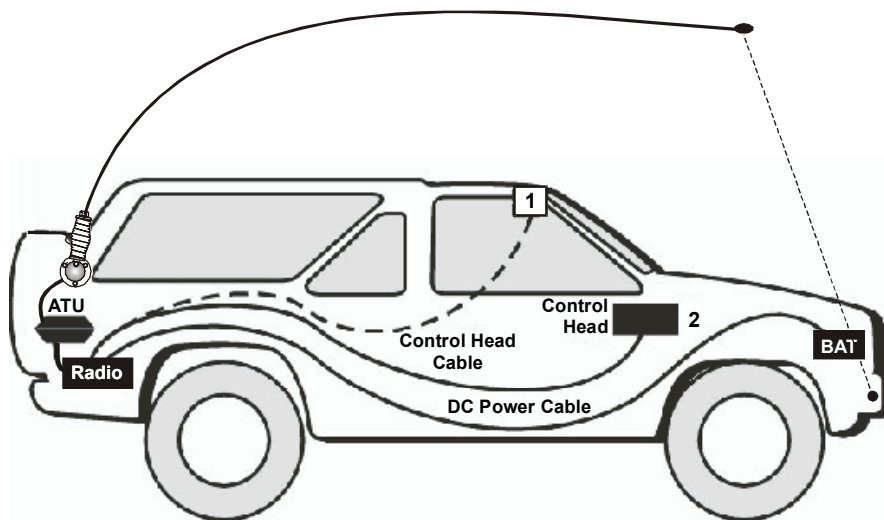

Figure 16. Typical MICOM-3T Installation Within Vehicle
Figure 16 shows the location of the installed components within the vehicle.
1. The upper installation (number 1 in Figure 16), is recommended over the front installation (number 2 in Figure 16) because of the covering that protects the control head from direct sunlight.